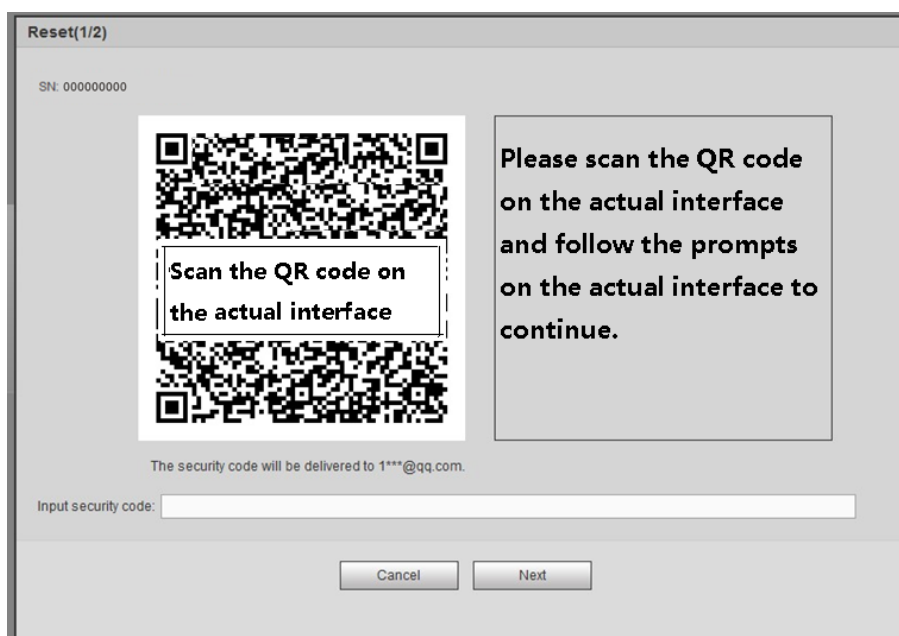

Figure 5-7
Step 1 Click Forgot password, enter the following interface. See Figure 5-7.